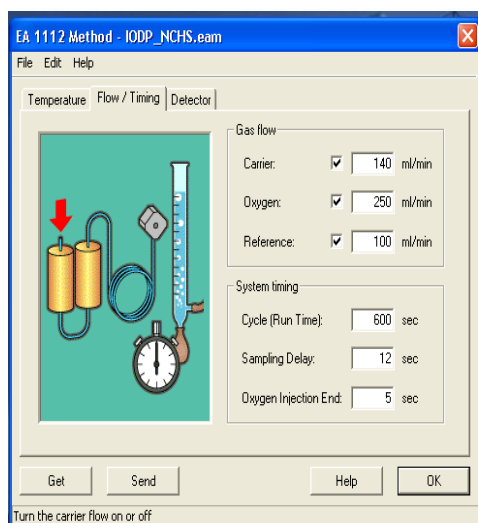

Figure 8. Flow/Timing Tab.
2. Select the **Flow / Timing** tab (Figure 8).